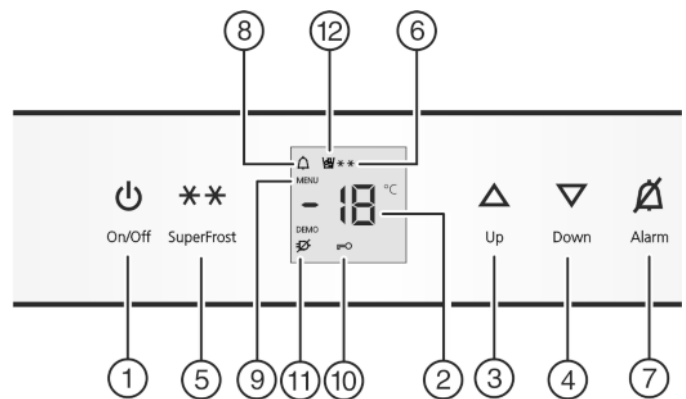

Fig. 2
- ▶ Press On/Off button *Fig. 2 (1)*.
- ▶ To activate the setting mode: press SuperFrost button *Fig. 2 (5)* for about 5 s.
- ▷ The menu symbol *Fig. 2 (9)* shines.
- ▶ Briefly press the SuperFrost button *Fig. 2 (5)* to confirm. When **cl** is indicated in the display:
- ▶ To activate the child lock, briefly press the SuperFrost button *Fig. 2 (5)*.
- ▷ The child lock symbol *Fig. 2 (10)* shines. **c** flashes in the display.
- ▶ to deactivate the child lock, briefly press the SuperFrost button *Fig. 2 (5)*.
- ▷ The child lock symbol *Fig. 2 (10)* goes out. **c** flashes in the display.
- ▶ To deactivate the set-up mode: press On/Off button *Fig. 2 (1)*.
- ▶ Press alarm button *Fig. 2 (7)*.
The temperature display and the alarm symbol *Fig. 2 (8)* flash at the same time.
The audible alarm is automatically silenced, the alarm symbol *Fig. 2 (8)* goes out and the temperature display stops flashing when the temperature is sufficiently cold again.
- ▶ To set the temperature higher: press Up button *Fig. 2 (3)*.
- ▶ To set the temperature lower: press Down button *Fig. 2 (4)*.